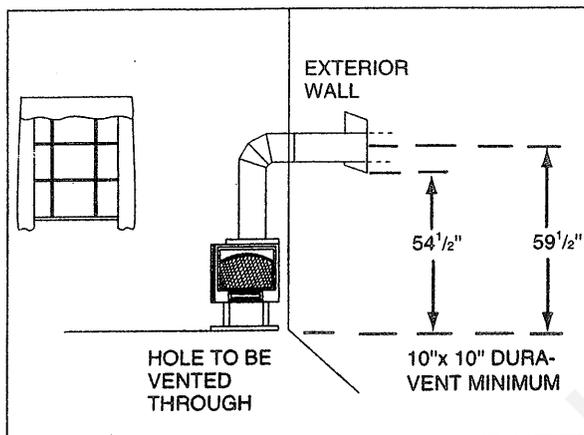

Figure 5
The height of the hole must be located to meet all local and national codes and not be easily blocked or obstructed. The minimum height to the center of the horizontal vent is 59½" from the base of the unit. This figure will increase by the length of each vertically positioned vent section added to the venting system. See Figure 5.
The Dura-Vent GS is unitized and twist-locks together. For the twist-lock procedure, consult Figure 5 and do the following:
- (1) Four indentations, located on the female ends of pipes and fittings, are designed to slide straight onto the male ends of adjacent pipes and fittings, by orienting the four pipe indentations so they match and slide into the four entry slots on the male ends. (Figure 5.) Push the pipe sections completely together, then twist-lock one section clockwise approximately one-quarter turn, until the two sections are fully locked. The female locking lugs will not be visible from the outside, on the Black Pipe or fittings. They may be located by examining the inside of the female ends.
- (2) Horizontal runs of vent must be supported every three feet. Wall Straps are available for this purpose.